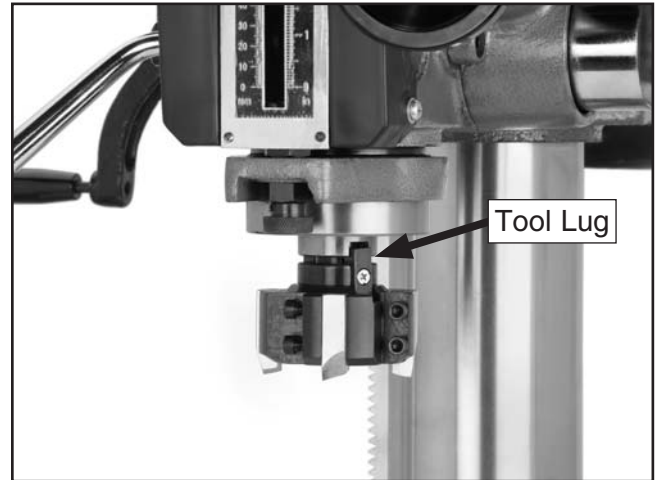

Figure 18. Large diameter cutter properly inserted into the spindle.
4. Wearing heavy leather gloves, align the lugs on the tooling with the slots on the spindle, then push the tool firmly into the spindle taper to seat it (see **Figure 18**).